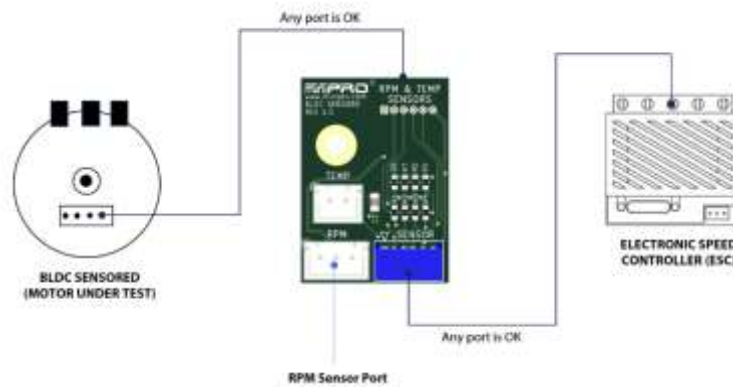

Figure 1: BLDC. RPM Sensor Wiring Diagram
1. Connect the Motor and ESC sensor port to any BLDC Sensor Port (see Figure 1)